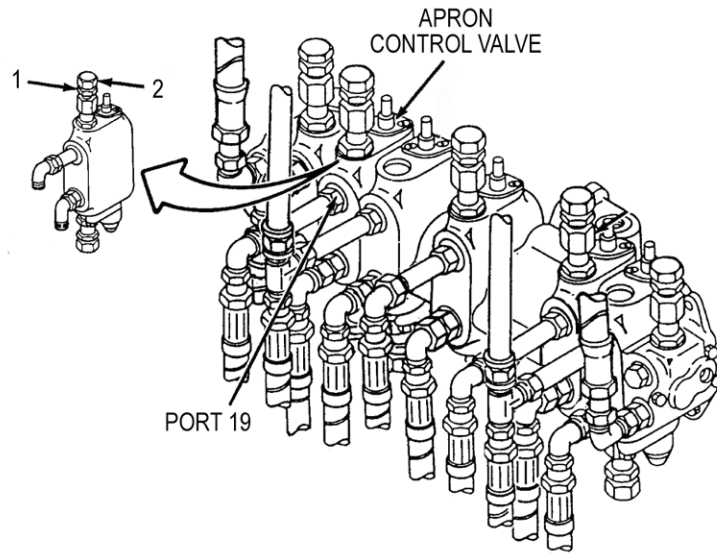
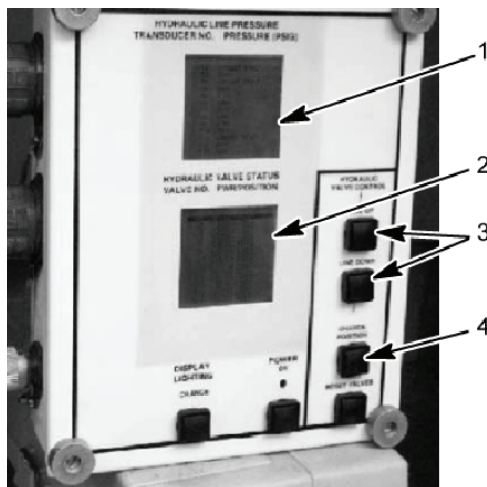

Figure 6. Apron Control Pressure Relief Valve
Figure 7. DCV Bank
- Using LINE UP or LINE DOWN button (Figure 7, item 3), select V1 on the HDC display (Figure 7, item 2). Close V1 on the HDC display (Figure 7, item 2) by selecting the CHANGE POSITION button (Figure 7, item 4) on the HDC control box. Select V17 on the HDC display (Figure 7, item 2). Close V17 on the HDC display (Figure 7, item 2) by selecting the CHANGE POSITION button (Figure 7, item 4) on the HDC control box.
- Loosen jam nut (Figure 6, item 1) on apron control pressure relief valve. Read transducer T-1 hydraulic pressure on the HDC display (Figure 7, item 1). Have assistant hold APRON CONTROL lever in UP position. Rotate valve adjustment (Figure 6, item 2) clockwise to increase pressure, counterclockwise to decrease pressure, until hydraulic pressure is a minimum of 3,500 psi (24,131 kPa).